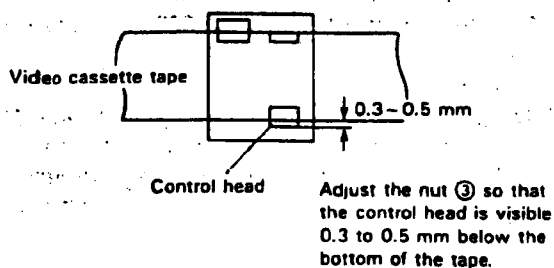

Figure 1-19.
• Replacement (See Figs. 1-19 and 1-20.)
- Loosen the tilt adjusting screw ⑥ by using Phillips screwdriver.
- Remove the azimuth adjusting screw ⑤ with a Phillips screwdriver.
- Remove the A/C head screw ④ with a Phillips screwdriver, paying attention to the spring ⑦ between the A/C head screw ④ and A/C head pedestal.
7. Play an alignment tape and roughly adjust the height of the A/C head, visually, by turning the A/C head adjusting hexagon nut ③ with the box driver (JiGDRIVER110-7) until the tape comes to the position shown below. (See Fig. 1-19.)